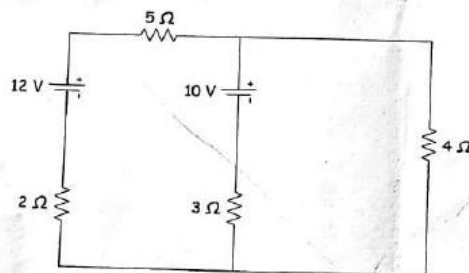

Figure Q1 (b)
- (ii) Using Superposition theorem, calculate the current flowing through the $4\ \Omega$ resistor in figure Q1 (b). Also, compute the voltage drop and power dissipated in the $4\ \Omega$ resistor. (8 marks)